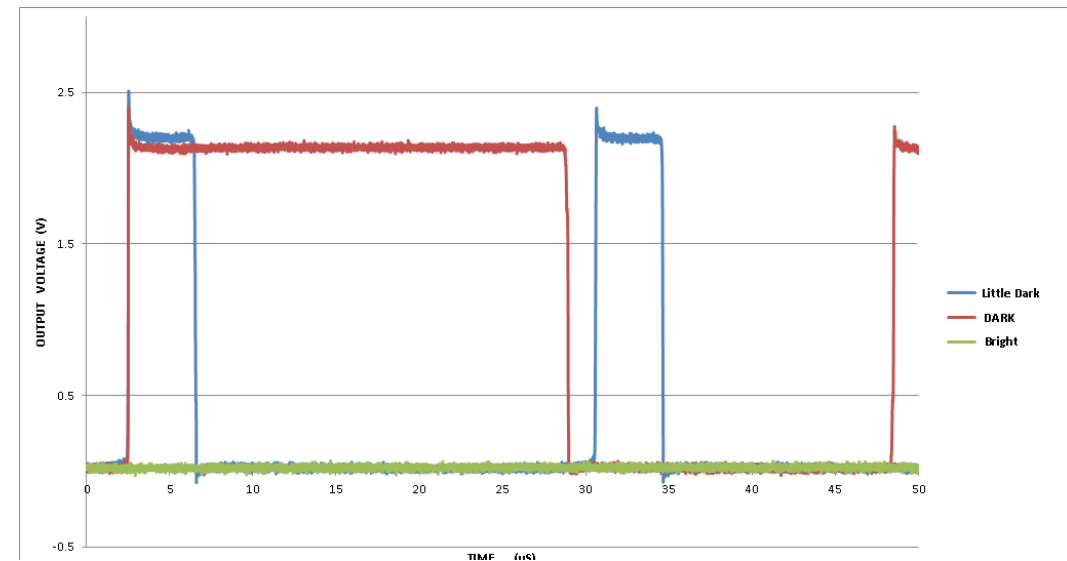

Figure 3. Waveforms at output with different light densities
Figure 3 shows three different stages of lighting conditions. When the environment is well lit, the output is low (0) as shown by the green trace, marked “Bright”, and of course, the LED is off. When the environment begins to darken as shown by the blue trace, marked “Little Dark”, the duty cycle is at about 15% and the LED’s output light is dim. When the envi-